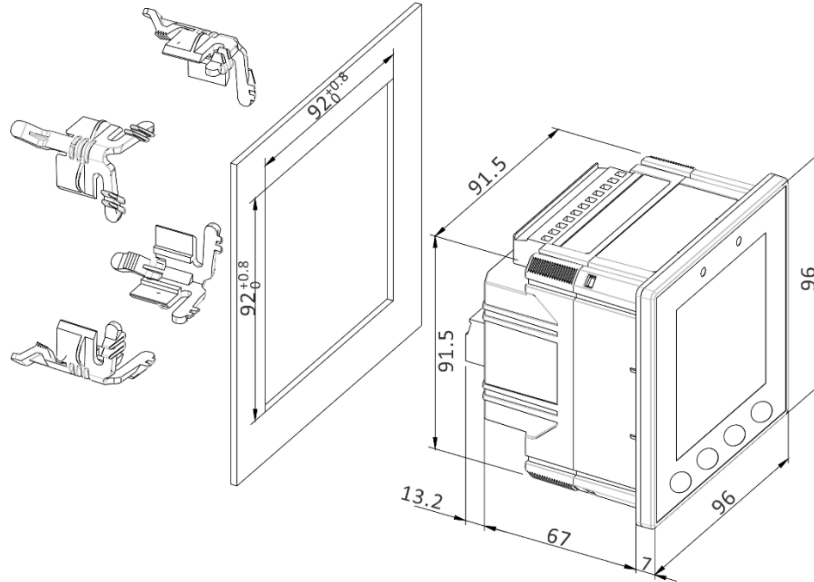

Figure 2-11 Panel Cutout Mounting
- Fit the meter through a 92mmx92mm cutout as shown in **Figure 2-11**